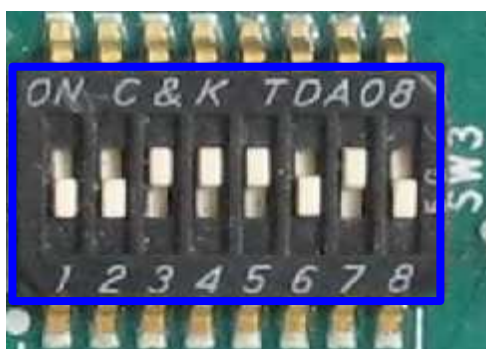

Figure 2-4 JTAG Enable for Arria10 SoC board
- 5) Set SW3[1] / [2] / [6] / [8] = OFF position to enable JTAG of HPS, FPGA, and MAX, as shown in Figure 2-4.